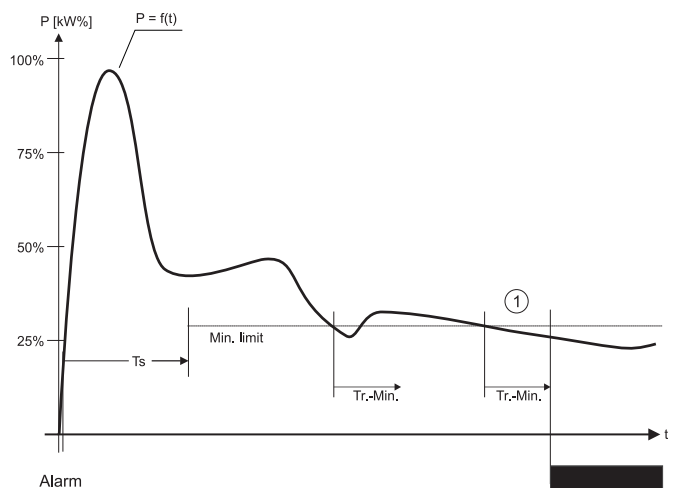

Figure 4.3 Functionality of the min. limit
With the min. limit an underload protection of the driven equipment is performed. As for the max. limit the setpoints are set in % of the entered power range. If the setpoint for the min. limit is exceeded (measured value less than setpoint) continuously for the duration of the min. respons time (T_r Min) a min. alarm is given (1) - see figure 4.3.